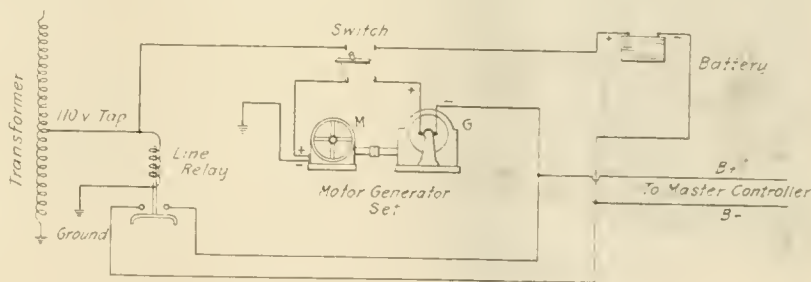

FIG. 16. ARRANGEMENT FOR CHARGING BATTERIES.
A. The connections are shown by Fig 16. A tap is taken from a transformer, usually of approximately 110 volts, and it is connected through a line relay to ground. This tap is also connected to one side of a double pole single throw switch. When this switch is closed, the 110 volts is connected to the motor of the motor generator set. The motor operates and will run whenever power is on the transformer. The other side of this switch is connected in the generator circuit—the generator, as mentioned above, supplies current to the battery, charging same. It is noted that the negative side of the generator is connected to the contacts on the line relay which are closed whenever the main transformer is energized. The object of this line relay is to prevent the battery feeding back into the generator, running the generator as a motor when the power is cut off